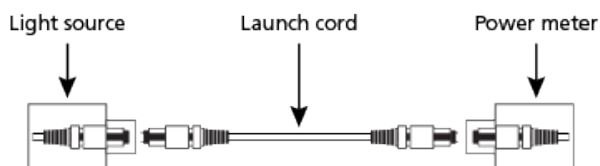

Figure 5. Set the reference 2. Attach the launch cord, power meter, and receive cord to the cabling under test (see Figure 6).
1. Set a reference between the light source and power meter using the launch cord (see Figure 5).